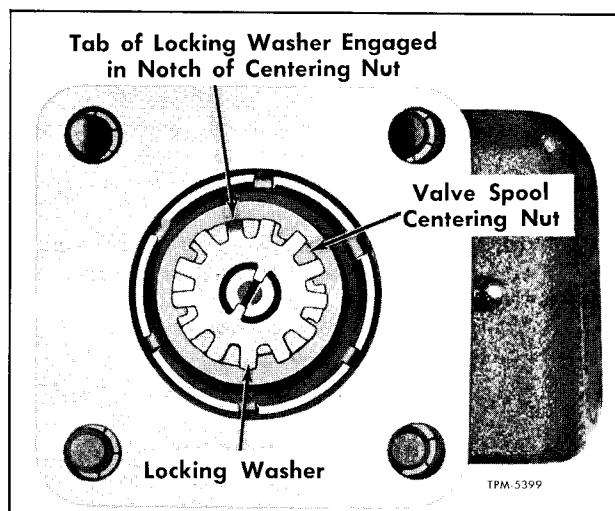

Figure 8—Valve Spool Locking Washer Installed
6. Lock valve spool in place by installing centering nut locking washer. Insert inside diameter tabs of the locking washer in slot of spool. One of the outside diameter tabs should then line up with one of the centering nut slots. Bend tab of washer into slot of centering nut (fig. 8), using punch and hammer.